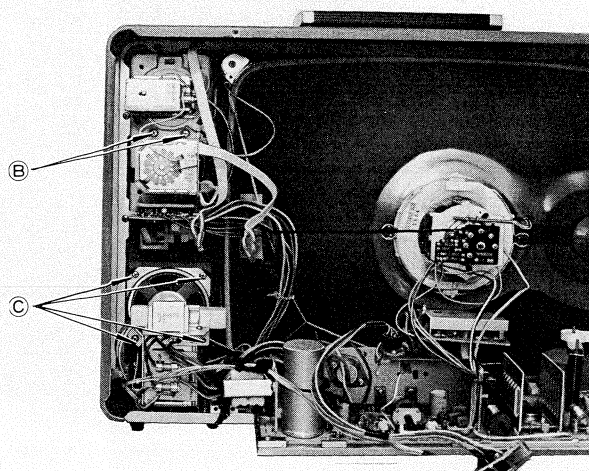

Fig. 7.
- (3) Remove 2 screws (B) shown in Fig. 7.
- (1) Remove the rear cover.
- (2) Remove 4 screws (C) shown in Fig. 7.